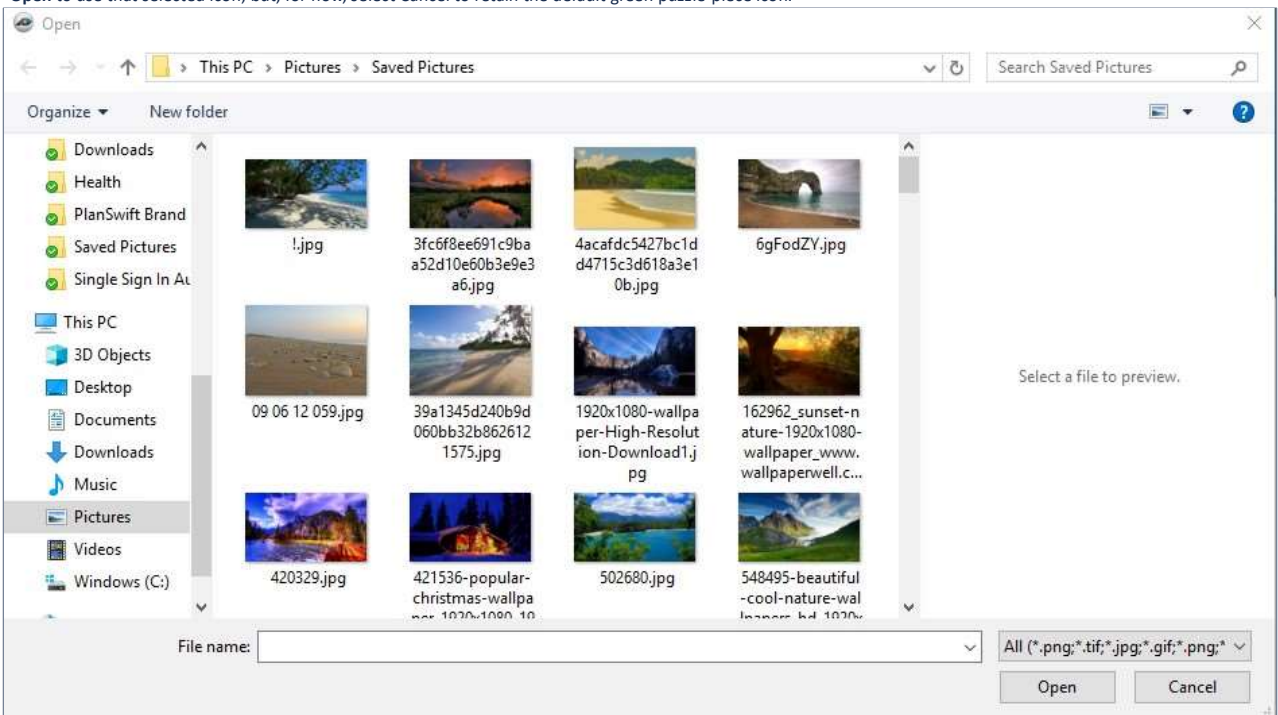

Figure 7
- This opens an Explorer window (Figure 7) allowing the selection of an icon. From here, it is possible to navigate to a different directory and select an icon, then click on **Open** to use that selected icon; but, for now, select **Cancel** to retain the default green puzzle-piece icon.